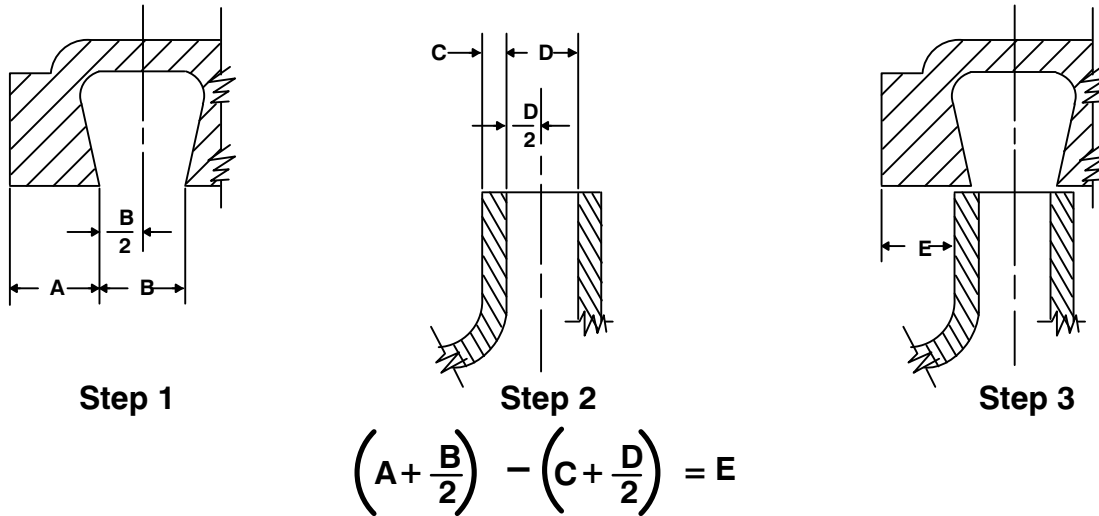

Figure 8. Centering Impeller Within Vane Plate Scroll
To verify the impeller positioning, measure the vane plate and impeller as shown in Figure 8. Use these measurements to calculate the required impeller location (dimension E). Add or remove impeller adjusting shims (14) until dimension E is obtained.